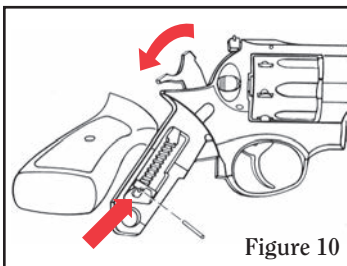

Figure 10
3. Cock the the hammer. Insert a disassembly pin into the hole at the rear of the mainspring strut (see Figure 10). Any 0.095" to 0.075" pin or 5/64" Allen wrench can be used as a disassembly pin.